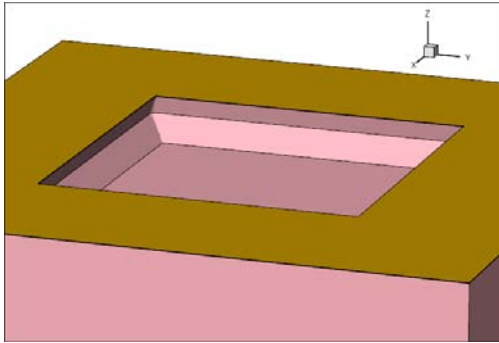

Figure 116 Trapezoidal 3D etching produced with the options `angle=110` `thickness=0.3` `bottom.angle=45` `bottom.thickness=0.400`
- A thickness (or rate and time) and an angle (optional) plus bottom.thickness and bottom.angle (optional) are specified. If angle is not specified, it defaults to  $90^\circ$  (vertical). Here, a special condition applies: angle must be greater than or equal to  $90^\circ$ , while bottom.angle must be smaller than or equal to  $90^\circ$ . In other words, the *first etching* penetrates behind the mask, while the second one does the opposite. Figure 116 on page 727 shows an example of this type.